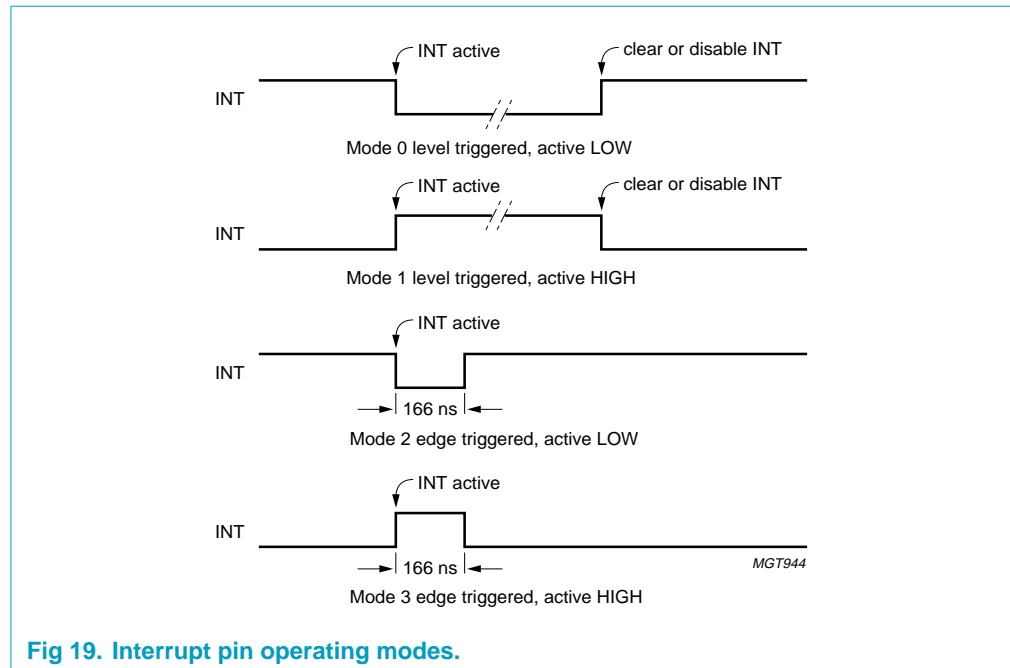

Fig 19. Interrupt pin operating modes.
**Figure 19** shows these four interrupt configuration modes. They are programmable via the HcHardwareConfiguration register (see **Section 10.4.1**), which are also used to disable or enable the signals.